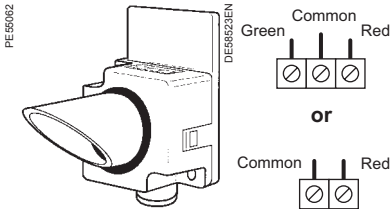

Fig. 7
- a standard outdoor box (fig. 7), wall mounting with two 4 mm diameter screws,